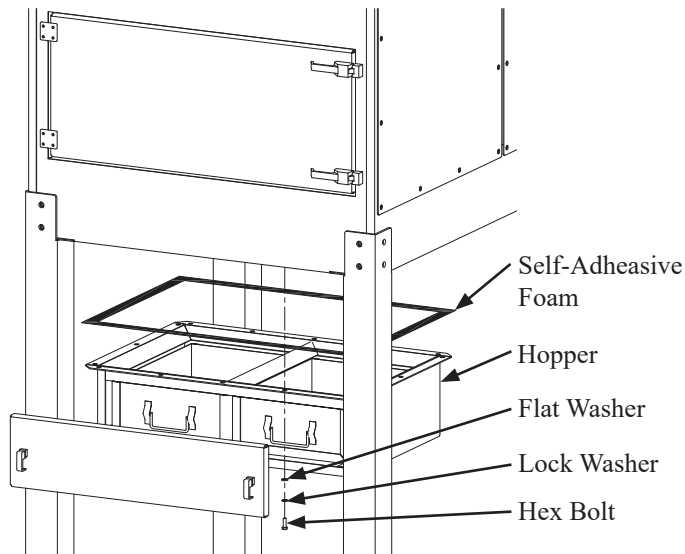

FIGURE 8
1. Apply self-adhesive foam to the bolt hole flange on the tray (Figure 8).